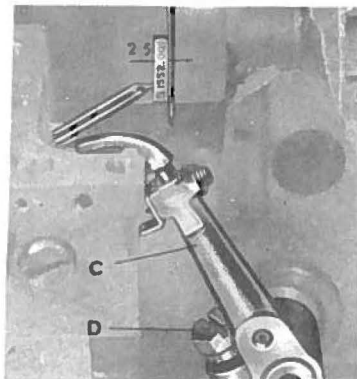

fig. 6
- When the primary looper has completed its stroke to the left and with the needle in its lowest position, the distance between the point of the looper to the needle is $\frac{1}{64}$ inch (fig. 6)
- If adjustment is required, loosen screw D (fig.6) and move looper holder C (fig. 6) left or right to the proper setting.
- With primary looper set as shown in fig. 6 adjust looper holder C (fig.6) forward or backward on primary looper shaft so that looper passes the needle on its stroke to the right as close as possible above the center of the needle scarf, and on its stroke to the left, below the center of the needle scarf with no deflection to the needle.